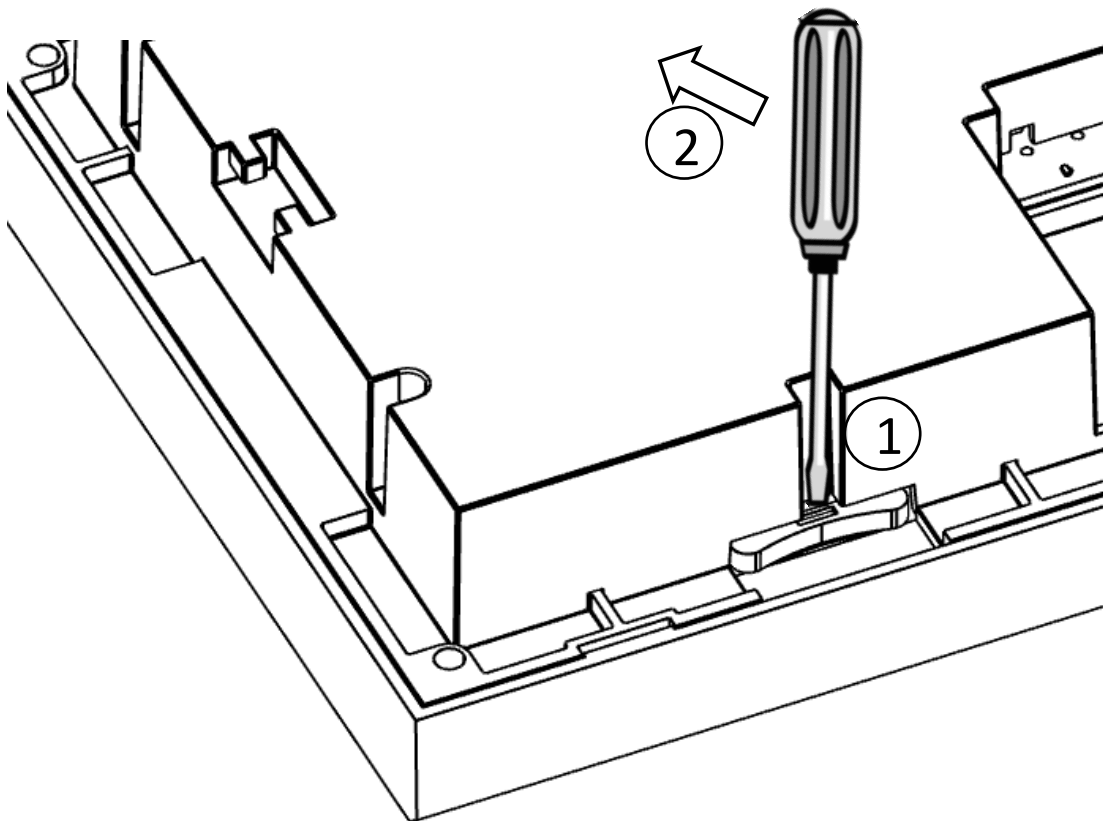

Figure 48 Change Backup Battery
To replace backup battery follow the steps as depicted in Figure 48
- Locate physical location of backup battery on rear side of panel as shown in Figure 3 and Figure 48
- Insert flat screwdriver into notch of battery glider and slide it out by levering screwdriver as shown in Figure 48